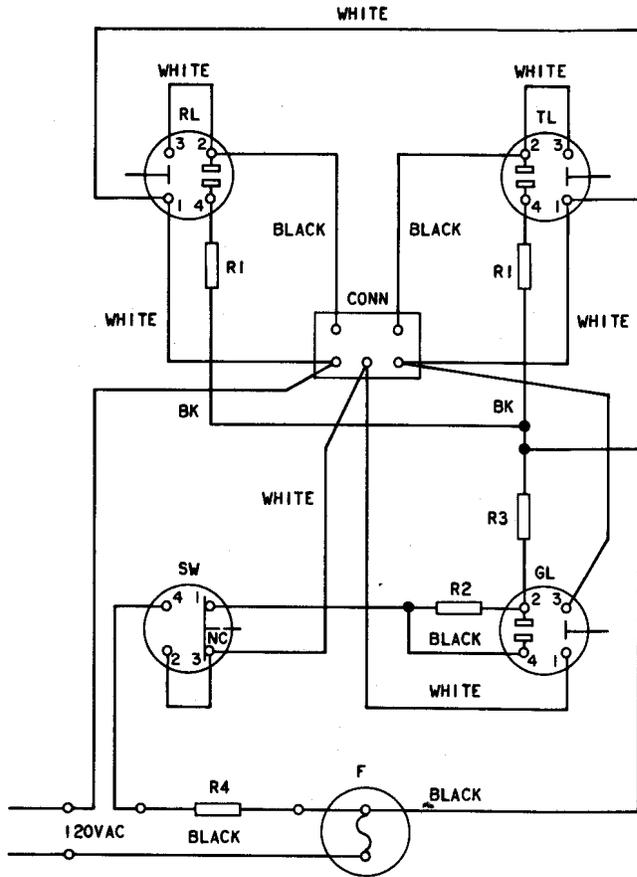
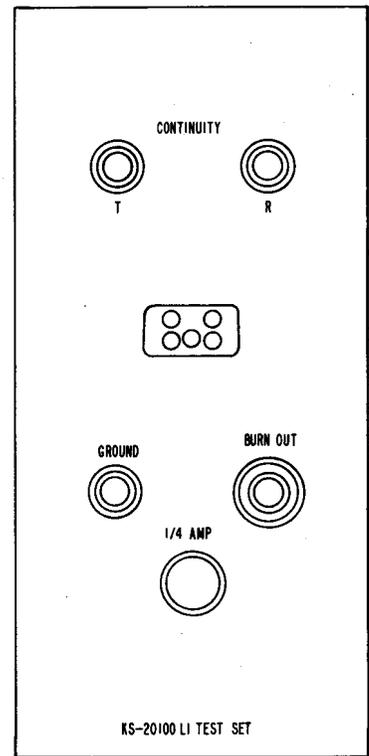
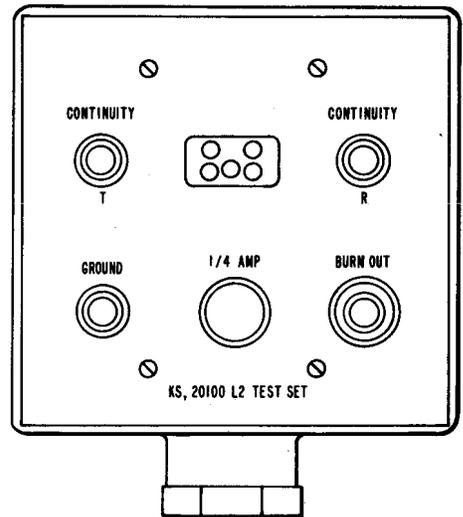

Fig. 1—KS-20100 Test Set Schematic Diagram
Fig. 2—KS-20100 L1 Test Set
Fig. 3—KS-20100 L2 Test Set
1.05 The circuitry of the KS-20100 L1, L2 (Mfr Disc) and L5 test sets is identical (Fig. 1). The L1 test set is an integral component of modular protector frames (Fig. 2). The L2 test set is housed in a conduit box for wall mounting (Fig. 3). The L5 test set is also wall mounted.